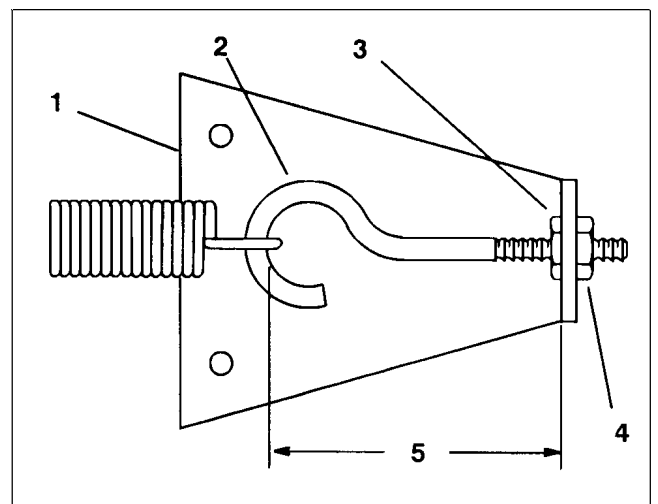

Figure 24A
7. Turn inner locknut clockwise until distance between inside of eye bolt loop and inside of spring anchor plate is shortened 1/8 inch, as shown in Figure 24A. Tighten outer hex nut.